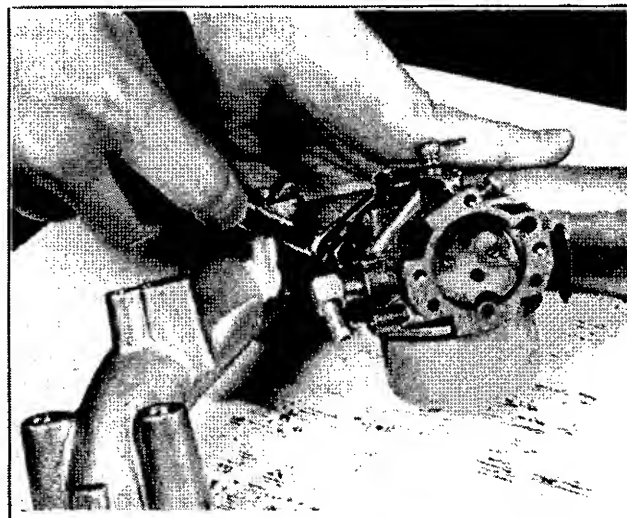

Figure 8-37. Mounting Carburetor On Intake Manifold
2. Position carburetor gasket on mounting studs on the intake manifold. Fasten carburetor to manifold using 5/16" lock washers and 5/16-18 hex nuts. Torque nuts to 150 in. lbs. (see Figure 8-37.)